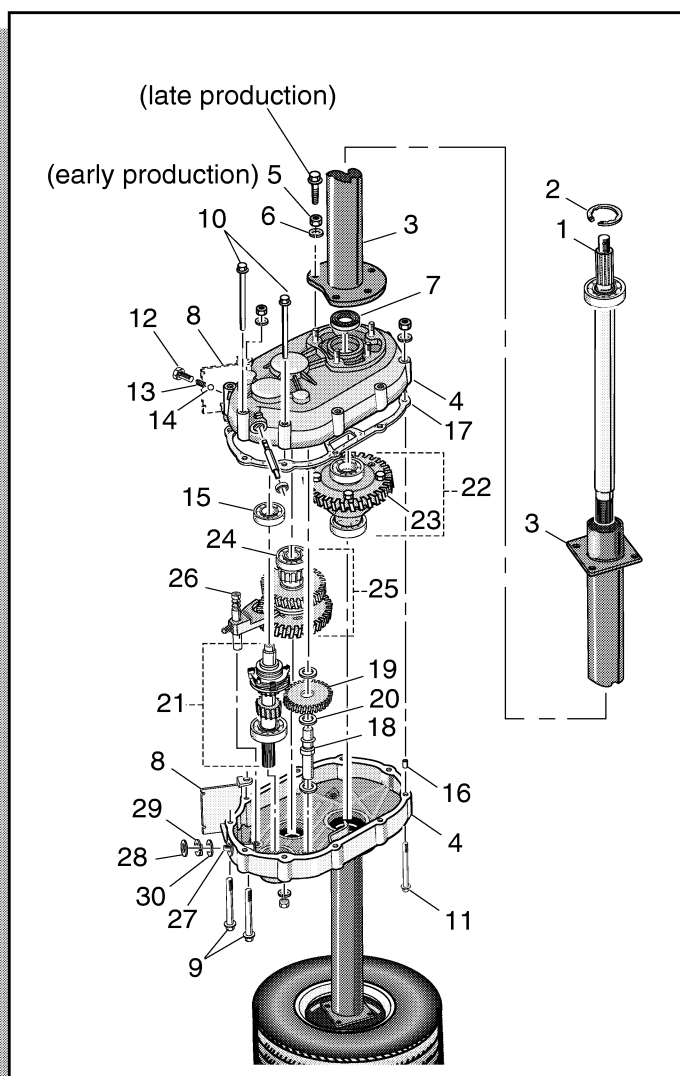
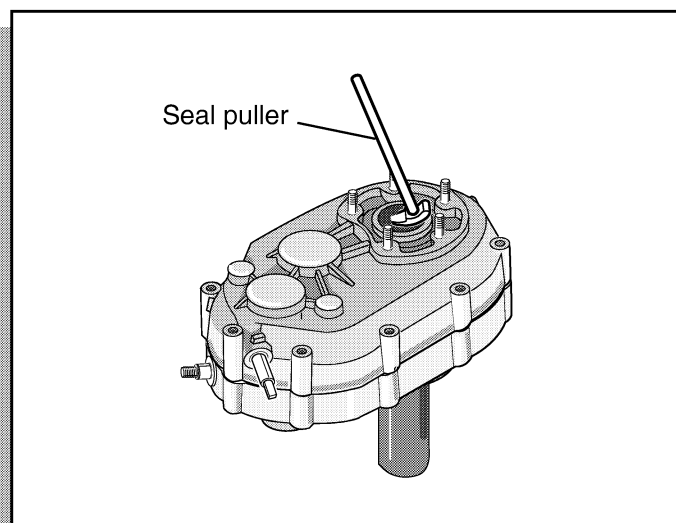

Fig. A-3 Transaxle Breakdown
Fig. A-4 Axle Shaft and Tube Removal
1. Remove the top (passenger) side axle shaft (1) (Ref Fig. A-3 on page A-2).
A. Using snap ring pliers, remove the bearing retaining ring (2) from the end of the axle tube (3).
2. Remove the top (passenger) side axle tube from transaxle casing (4) (Ref Fig. A-3 on page A-2).
A. Using a 17mm socket, remove five nuts (5) and washers (6) attaching the tube to the casing (some models may use bolts) and carefully lift the tube from the casing studs.
3. Using a seal puller, remove the axle shaft seal (7) from the casing (Ref Fig. A-3 on page A-2)(Ref Fig. A-4 on page A-2).
1. Remove the shifter cable mounting bracket (8) (Ref Fig. A-3 on page A-2).
A. Using a 12mm socket, remove the two (2) bracket mounting/transaxle casing bolts (9) and pull the bracket from the casing.
2. Using a 12mm socket, remove the two accelerator bracket mounting/transaxle casing bolts (10) (Ref Fig. A-3 on page A-2).
3. Using a 12mm socket, remove the six remaining casing bolts (11) (Ref Fig. A-3 on page A-2).
4. Remove the shifter detent (Ref Fig. A-3 on page A-2).
A. Using a 14mm socket, remove the shifter detent bolt (12).
B. Using a small magnet, remove the spring (13) and ball (14) from the shifter detent bolt hole.
1. Remove the top (passenger side) half of the transaxle casing (4) (Ref Fig. A-3 on page A-2).
C. If the input shaft bearing (15) (Ref Fig. A-3 on page A-2) stays on the shaft when the top half of the case is lifted, remove it from the shaft and mark it for location.
2. Remove two transaxle case alignment dowels (16) and gasket (17) (Ref Fig. A-3 on page A-2).
1. Remove the counter shaft (18), reverse idler gear (19), and three spacers (20) (Ref Fig. A-3 on page A-2).
2. Remove the input shaft assembly (21) (Ref Fig. A-3 on page A-2).
3. Remove the differential carrier assembly, the intermediate gear shaft assembly (25), and the shifter fork (26) (Ref Fig. A-3 on page A-2).
4. Remove the selector shaft (27) (Ref Fig. A-3 on page A-2).